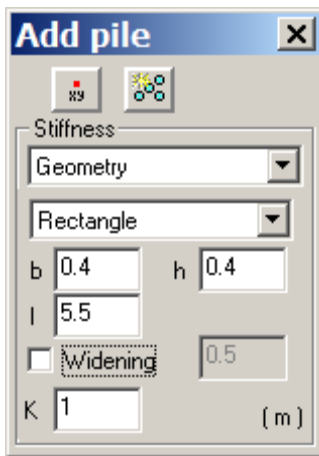

Figure 1.25.1 Add pile dialog box
- ⇒ In the **Add pile** dialog box (see Fig.1.25.1), define the following data: